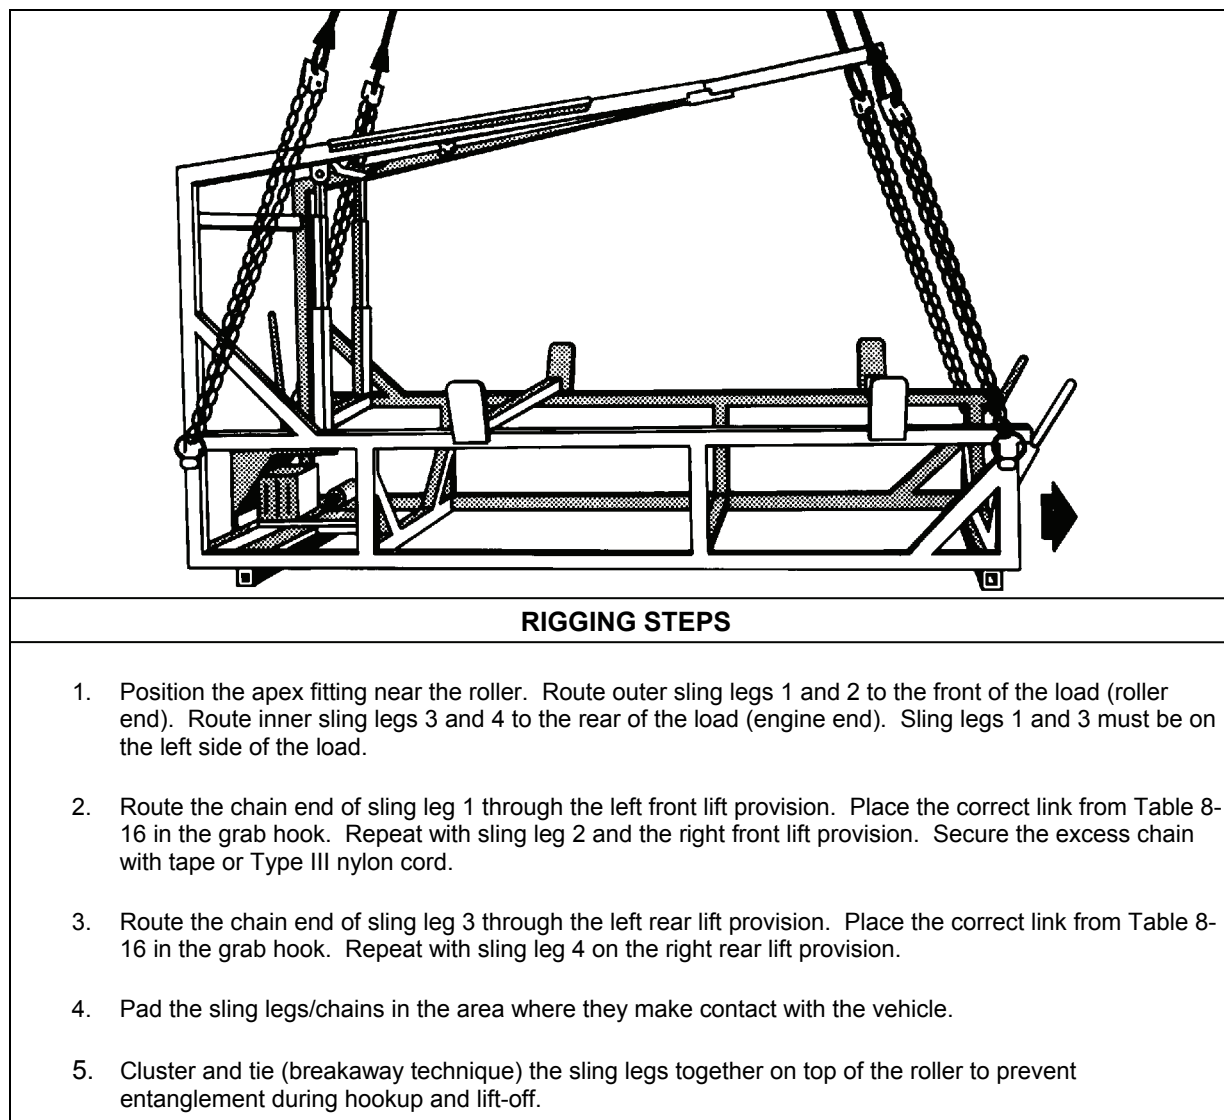

Figure 8-16. Mk155 Launcher, Mine Clearing
- **Rigging.** Rig the load according to the steps in Figure 8-16.